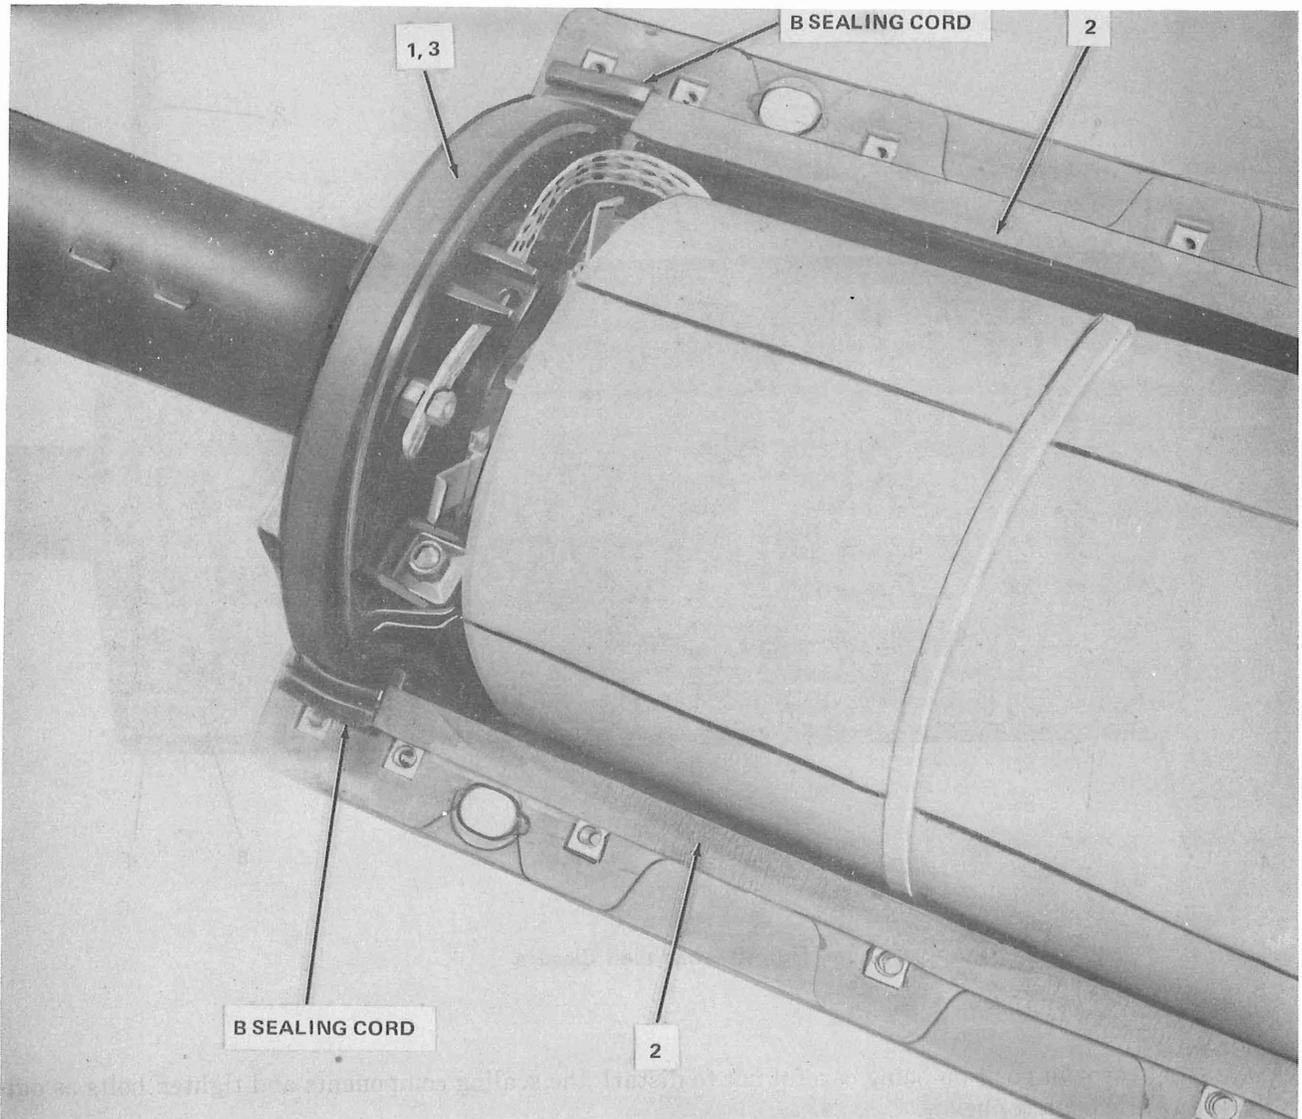

Fig. 39—Placing Sealing Components (Reentry Kit)
6.02 If the back cover half was used as outlined in Part 5, install front covers as outlined in Fig. 39 and 40. These steps illustrate the use of reentry seal kit only between the front cover and end plates. The advantage of placing the rear cover with sealing tape and the front cover with reentry kit is that upon reentry the rear cover will stay in place to hold the end plates in perfect alignment. If reentry is not planned, place sealing tape and cord on the end plates and cover and bolt on the front cover.